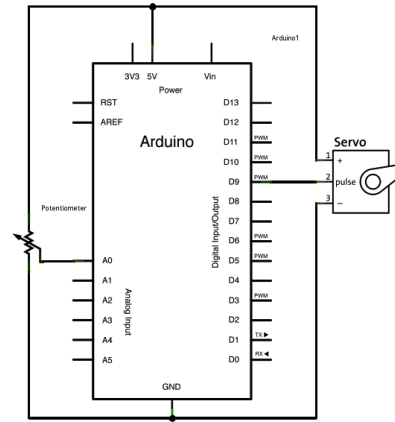

Figure 4.15. Servo Motor – Potentiometer control
- 5.1. Build the circuit in Figure 4.15 by connecting a 10k potentiometer to pin A0.